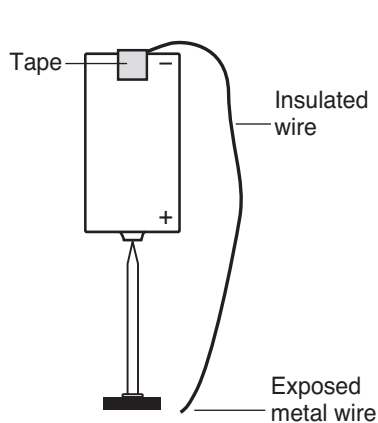

Figure 2.
3. Hold the battery with the *positive* terminal (knob side) pointing towards the ground. Touch the tip of the nail to the positive terminal. The magnetized iron nail will “stick” to the terminal of the battery and hang vertically (see Figure 2).